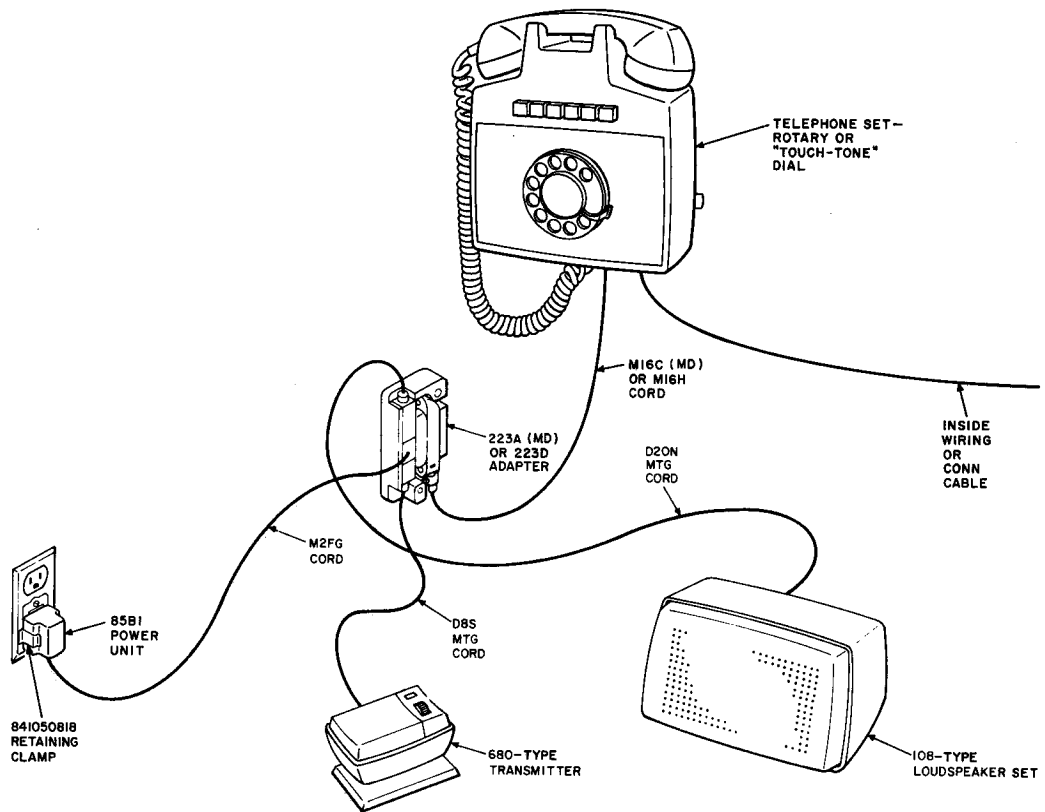

Fig. 1—4A Speakerphone System Arrangement, 6-Button Wall Telephone Set
- 2.09** Power can be provided by making connections as shown in Fig. 1, 2, and 3.